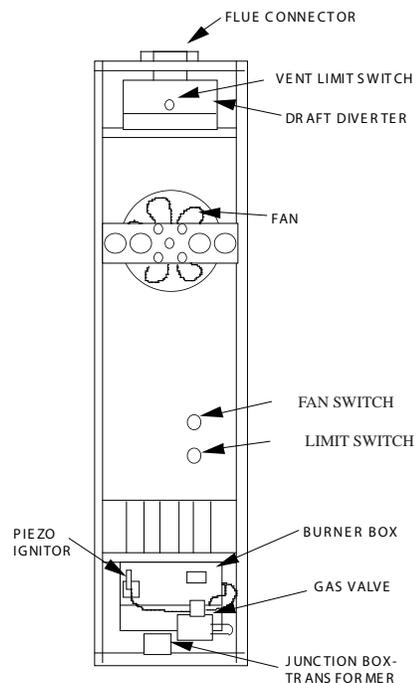

Figure 6
3. To check for line voltage to furnace, remove front panel and short across two-terminal fan control to allow fan to operate (Figure 6).